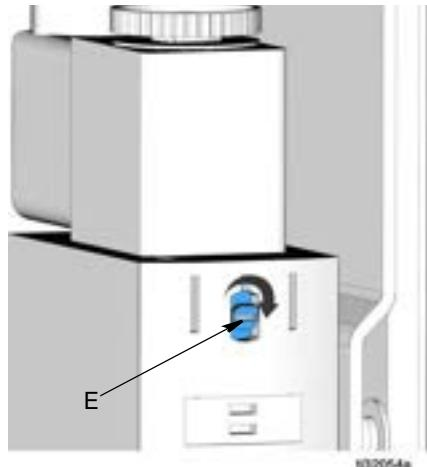

FIG. 14
The blue manual override switch screw (E) in FIG. 14 is set to the override position.